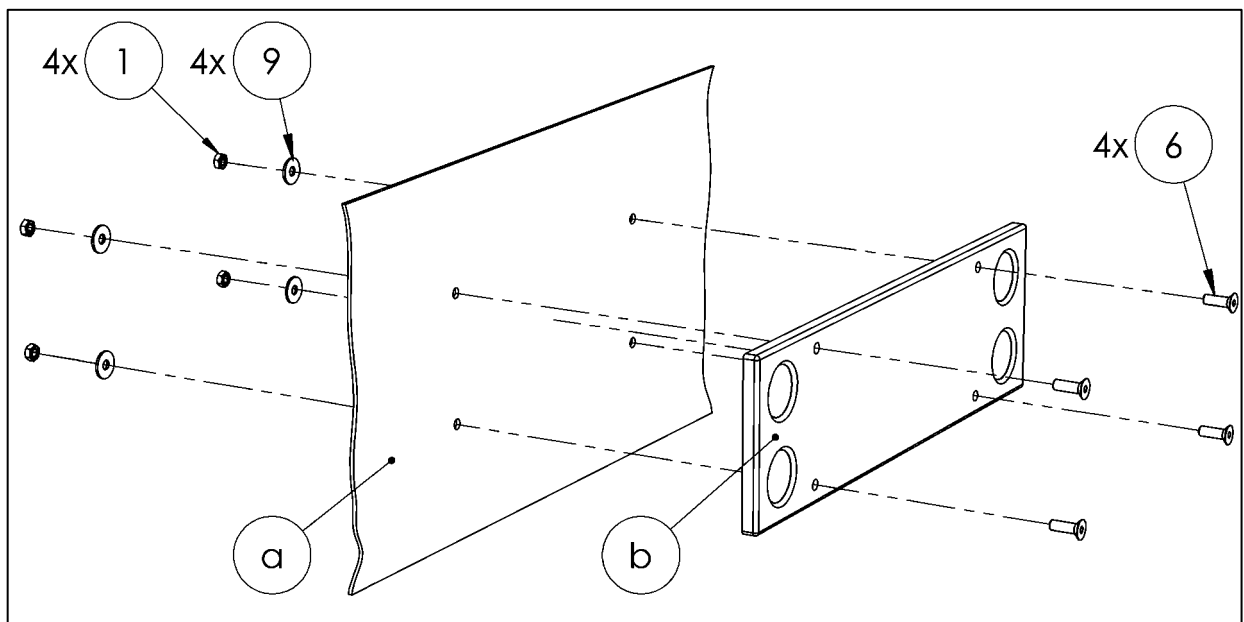
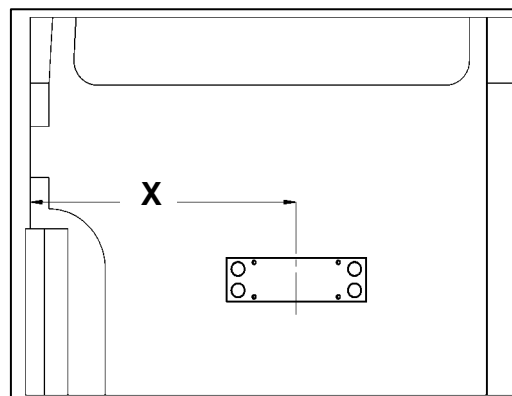

Fig. 32
Fig. 43
- Route the control panel cable to the cargo area so that it can be secured to the right-hand door (a) (protect against kinks and ensure correct cable length for fully opened door, using corrugated tubing if necessary) (see Fig. 32).
- Secure the control panel (b) to the right-hand vehicle door (a) using the fasteners (1, 6, 9) from the **accessories kit**, maintaining a distance of 400 mm \pm 100 mm ($15\frac{3}{4}'' \pm 3\frac{15}{16}''$) as per specifications (see Fig. 32 and Fig. 43).